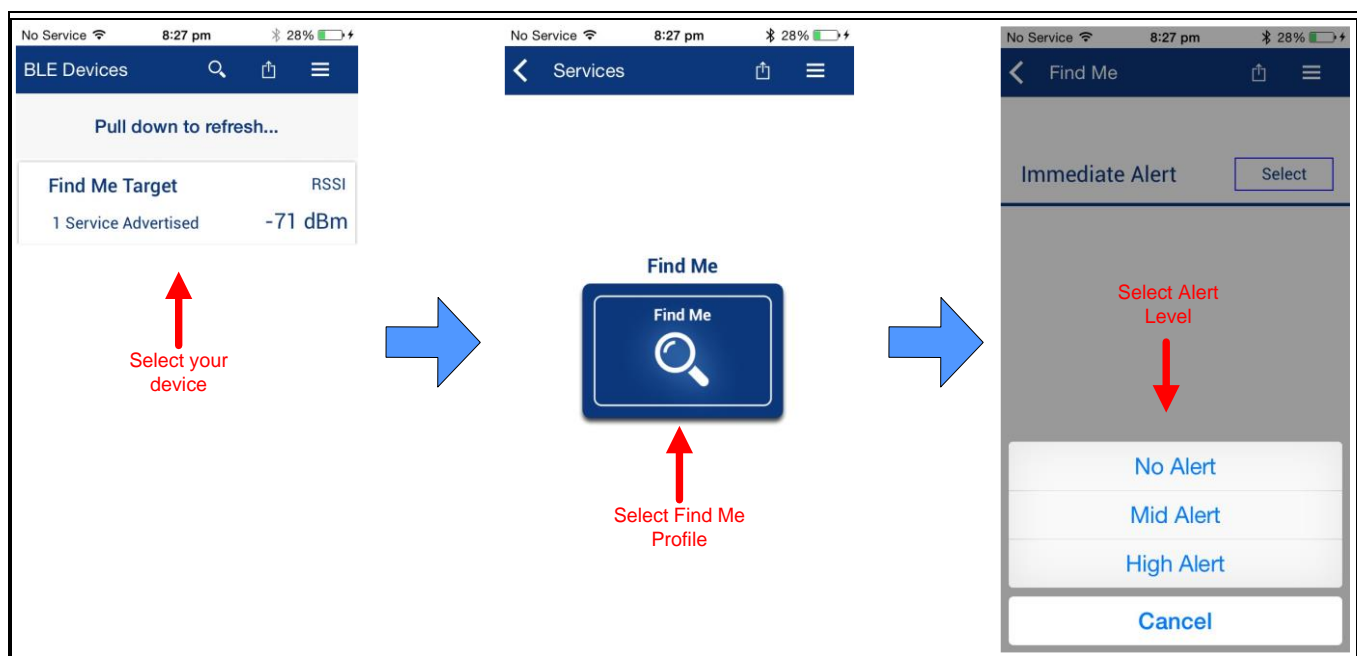
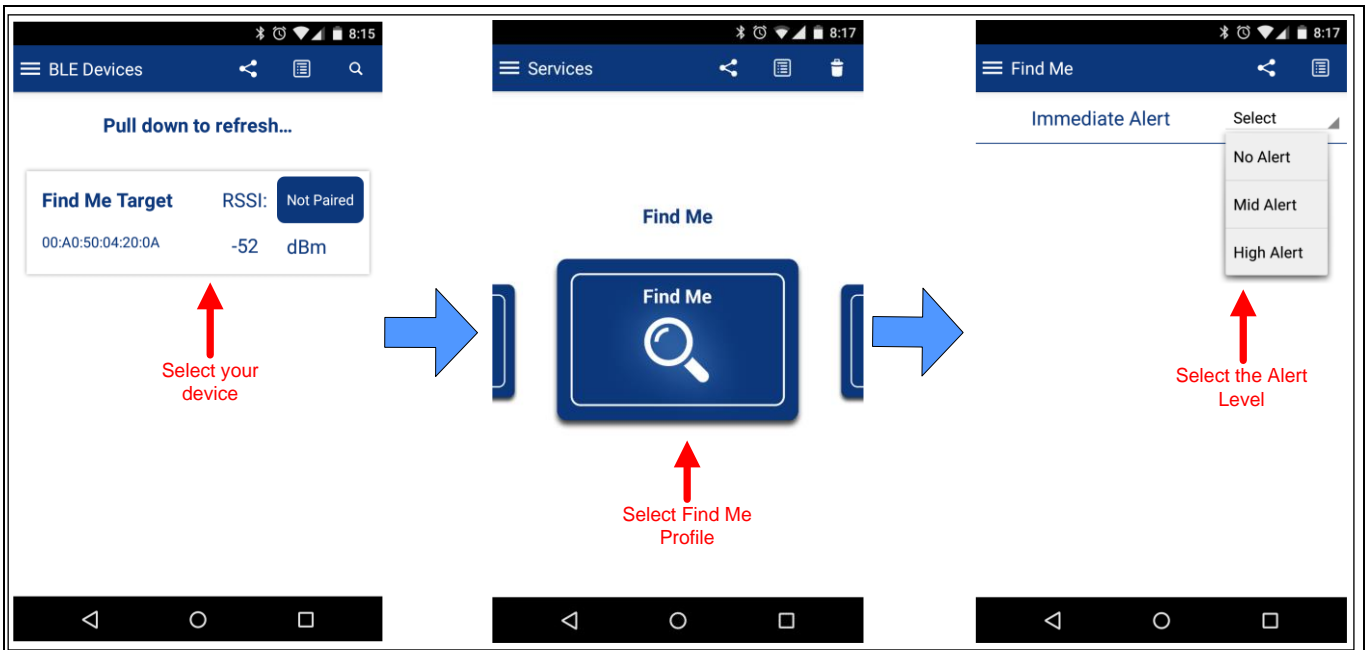

Figure 34 Testing with the CySmart App on iOS
Figure 35 Testing with the CySmart App on Android
4. To test using the CySmart mobile app, follow the steps below (see equivalent CySmart app screenshots in Figure 34 for iOS and Figure 35 for Android):